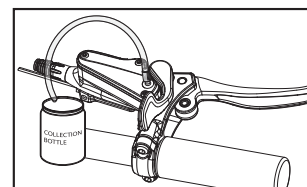

Fig 8d
- Install the appropriate bleed fitting into the reservoir bleed port. Firmly attach a long plastic tube over the bleed fitting, placing the other end into a clean, dry empty bottle or plastic bag. (Fig 8d)